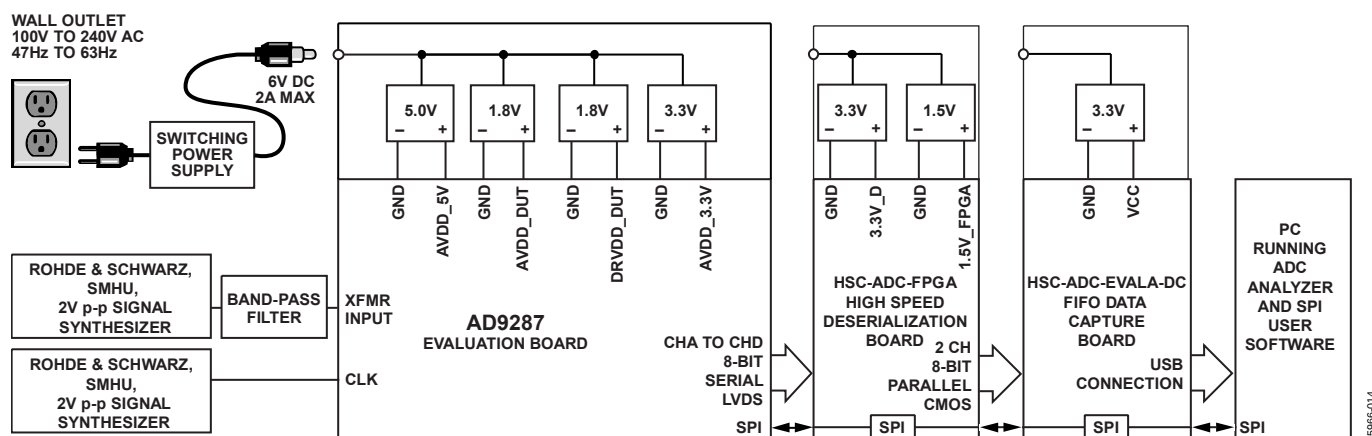
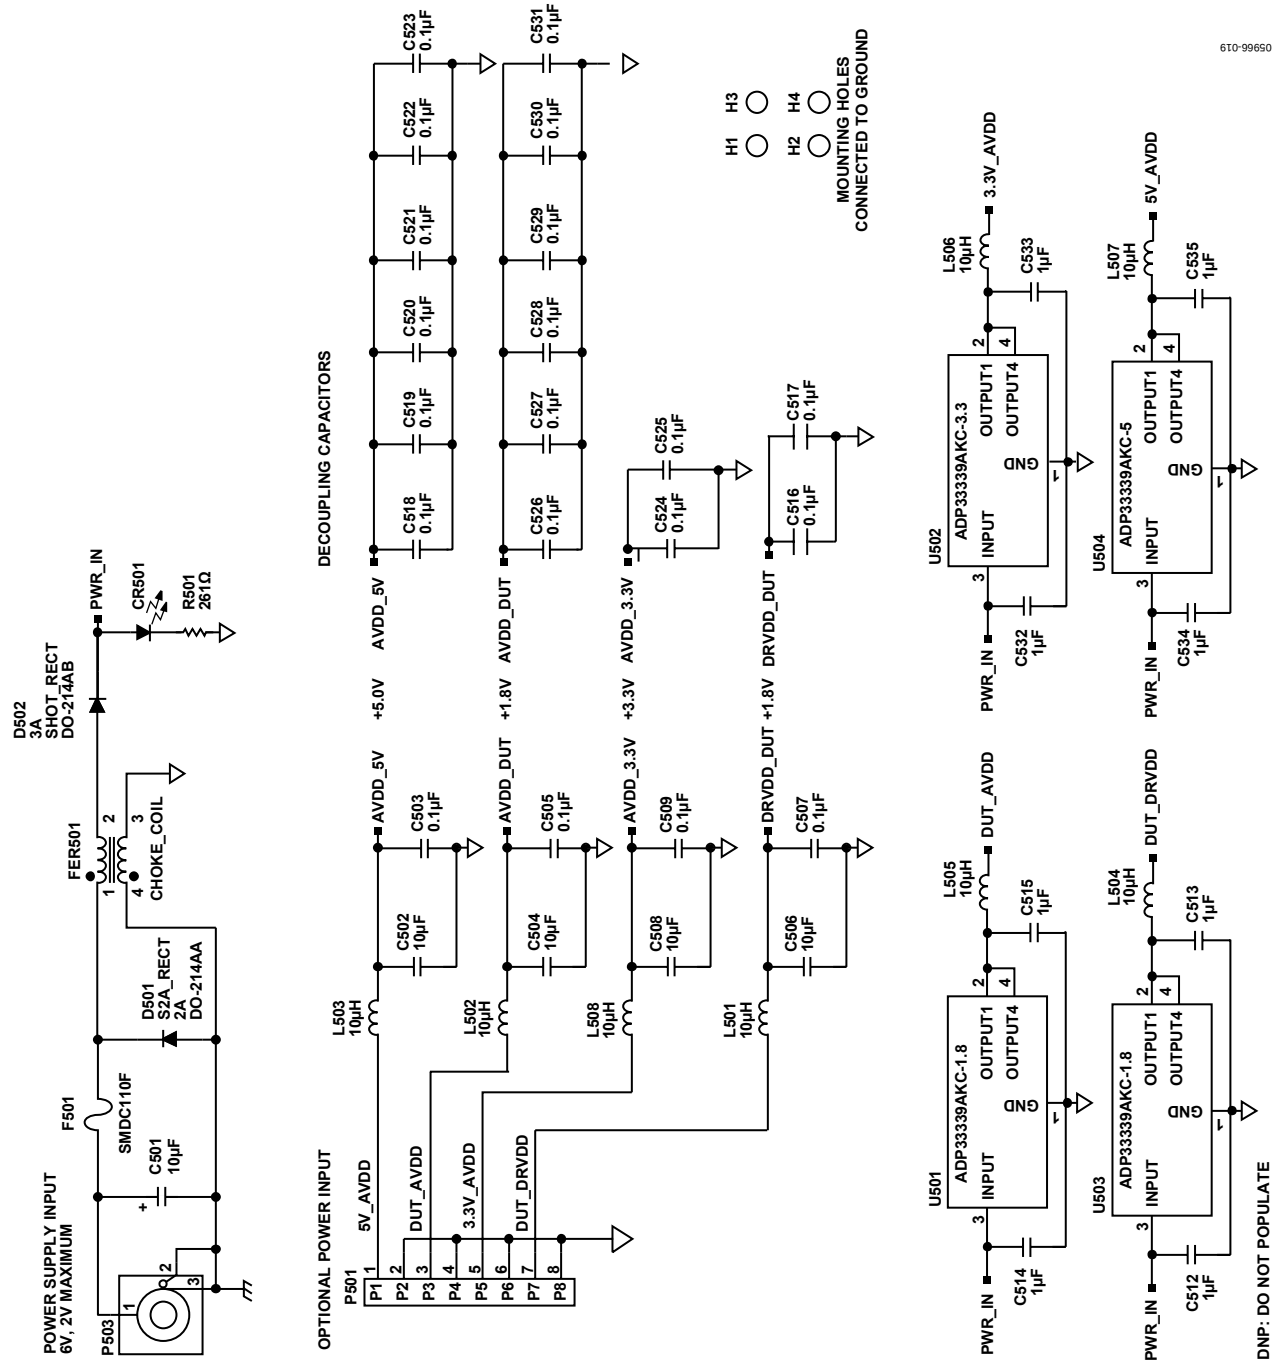

Figure 61. Evaluation Board Connection
Figure 67. Evaluation Board Schematic, Power Supply Inputs
The AD9287 evaluation board provides all of the support circuitry required to operate the ADC in its various modes and configurations. The converter can be driven differentially through a transformer (default) or through the AD8332 driver. The ADC can also be driven in a single-ended fashion. Separate power pins are provided to isolate the DUT from the AD8332 drive circuitry. Each input configuration can be selected by proper connection of various jumpers (see Figure 63 to Figure 67). Figure 61 shows the typical bench characterization setup used to evaluate the ac performance of the AD9287. It is critical that the signal sources used for the analog input and clock have very low phase noise (<1 ps rms jitter) to realize the optimum performance of the converter. Proper filtering of the analog input signal to remove harmonics and lower the integrated or broadband noise at the input is also necessary to achieve the specified noise performance.
- **D+, D-:** If an alternative data capture method to the setup described in Figure 61 is used, optional receiver terminations, R206 to R211, can be installed next to the high speed back-plane connector.